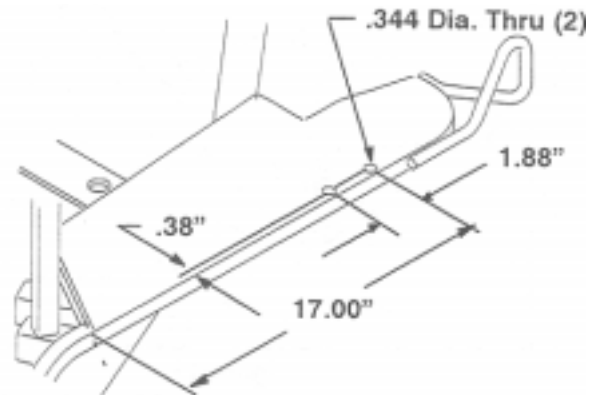

Figure 6
- Refer to the dimensions in Figure 6 to mark, locate, and drill 2 holes (11/32 inch diameter) through the right floor board.